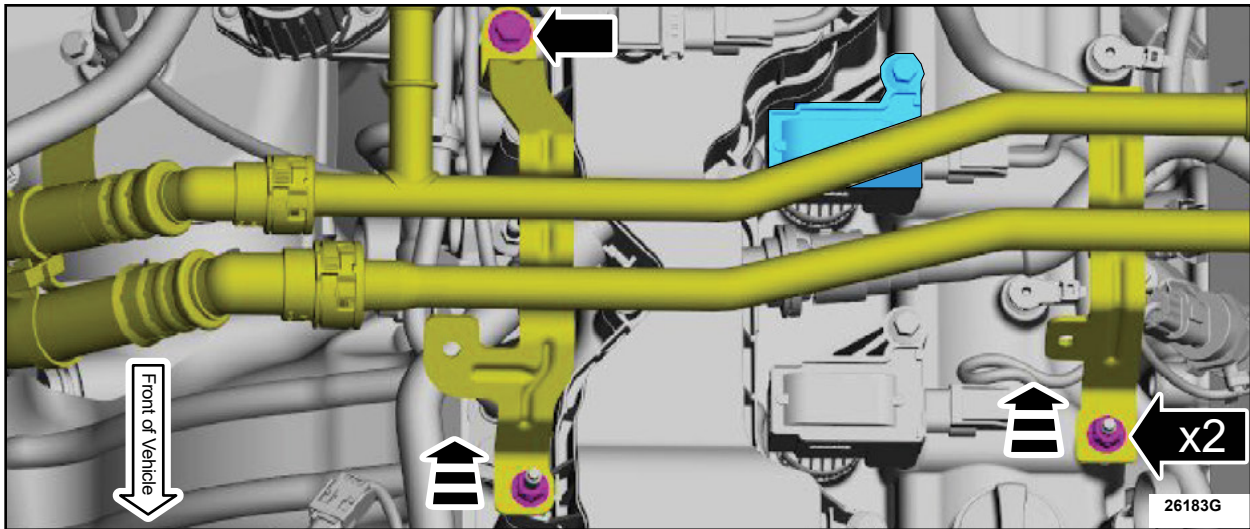

FIGURE 5
5. Remove the nuts and the bolt on the coolant hose brackets. Lift the brackets from the studs to allow access to cylinder 3. See Figure 5.